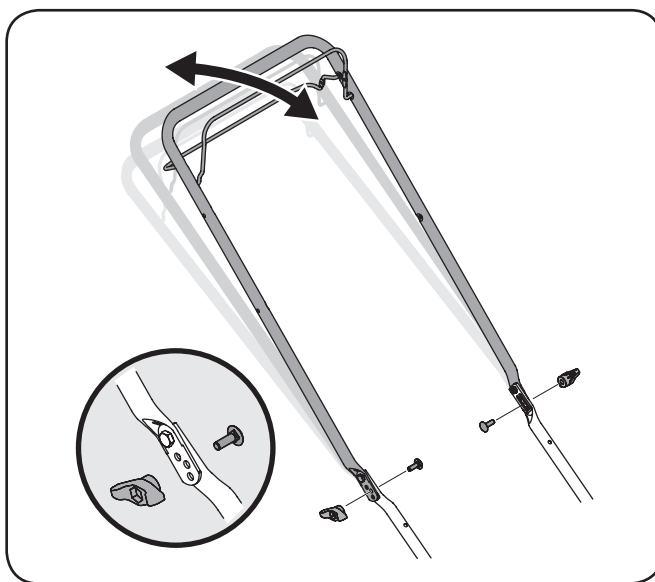

Figure 3-11
1. Remove wing nuts and carriage bolts from handle. See Fig. 3-11.
2. Position the handle in one of the three positions that is most comfortable. See Fig. 3-11 inset.